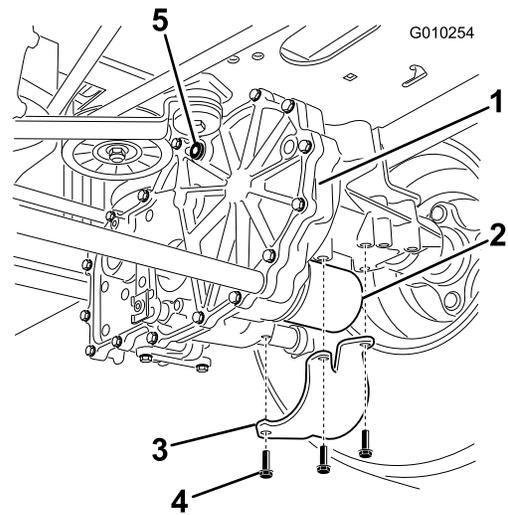

Figure 65
2. Nut—5/16 inch (2)
7. Locate the filter and guards on each transaxle-drive system (Figure 65).
8. Remove the 3 screws securing the filter guard and remove the guard (Figure 65).
4. Install the filter guards over each filter that you previously removed (Figure 65).
5. Use the 3 screws to secure the filter guards (Figure 65).
3. Install the vent plug (Figure 65).